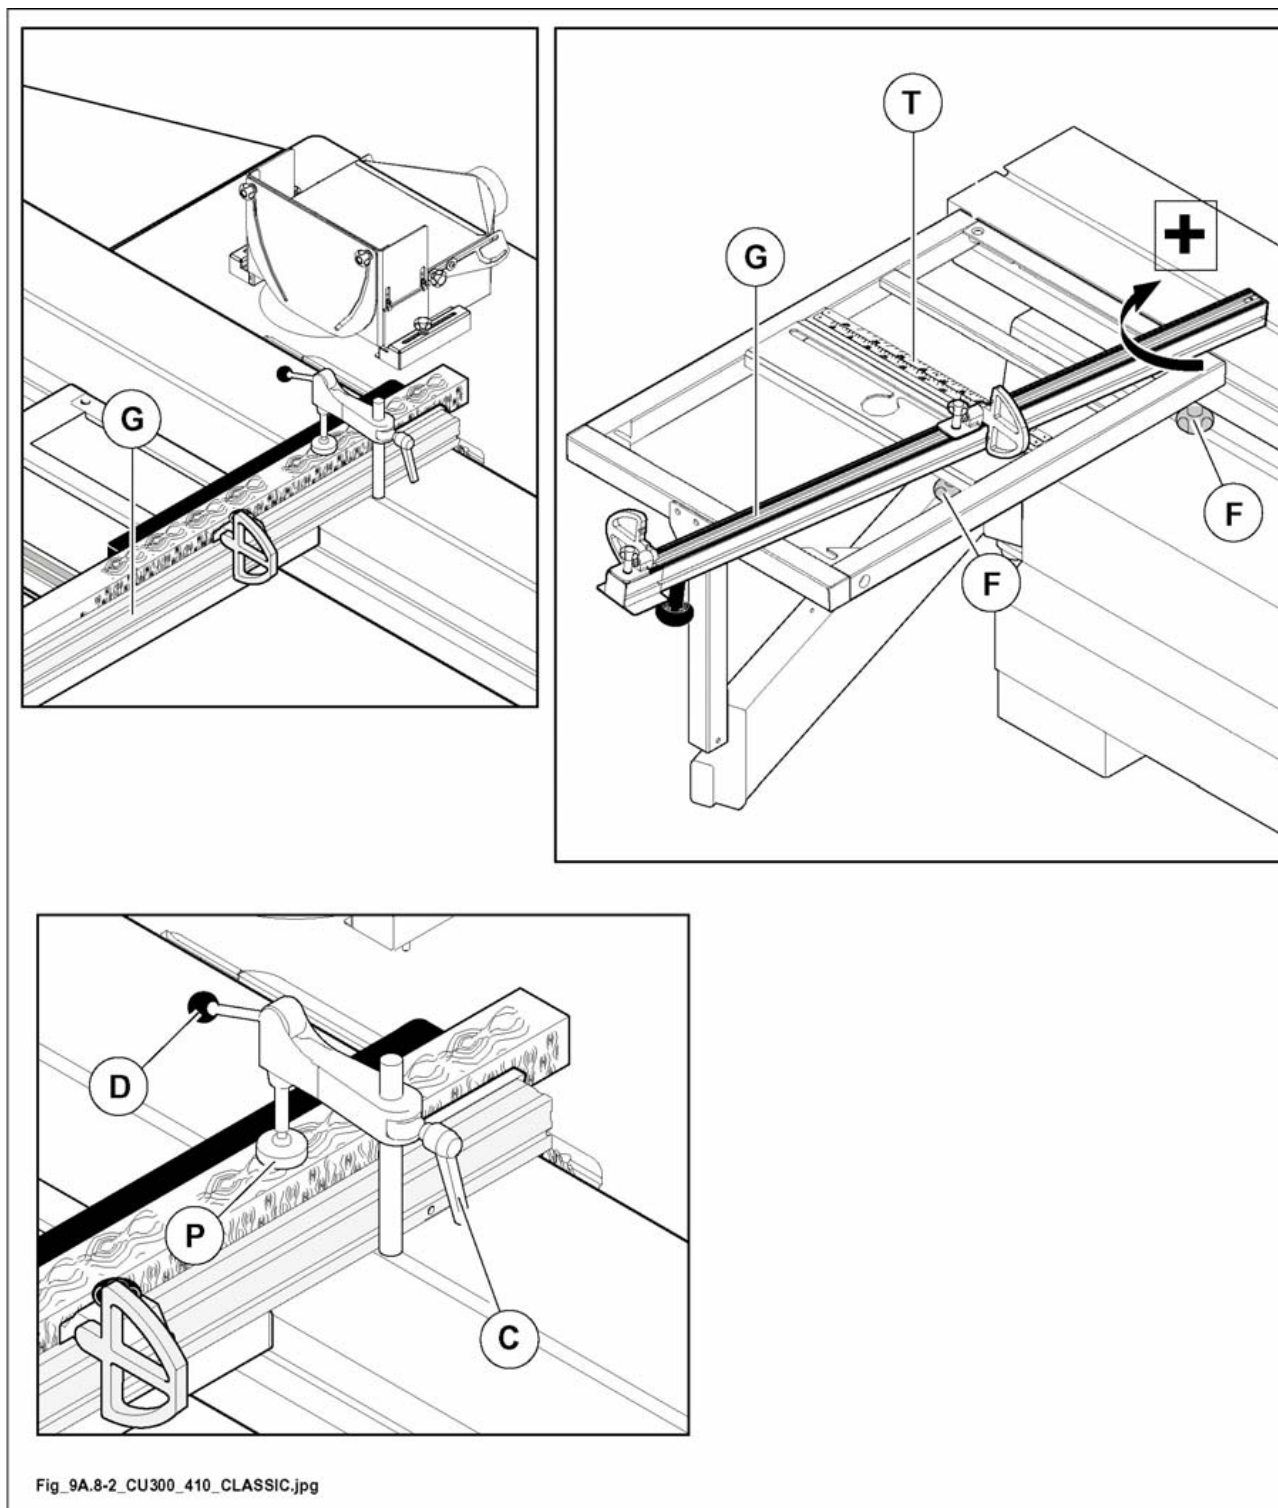

Fig. 9.8-2
The working of oblique tenons is quick, because it is sufficient to turn telescopic rest rule (G fig. 9.8-2) clockwise.
- Loosen the knobs (F fig. 9.8-2).
- Turn the rule to the desired angle clockwise (+ / index 1) then read the value directly on scale (T fig. 9.8-2) applied on the table.
- Tighten the knobs (F fig. 9.8-2).
To move the rule (G fig. 9.8-2) loosen the knobs (F fig. 9.8-2).
- For height adjusting loosen handle (C fig. 9.8-2).
- By means of lever (D fig. 9.8-2) lower foot (P fig. 9.8-2) to clamp the piece.